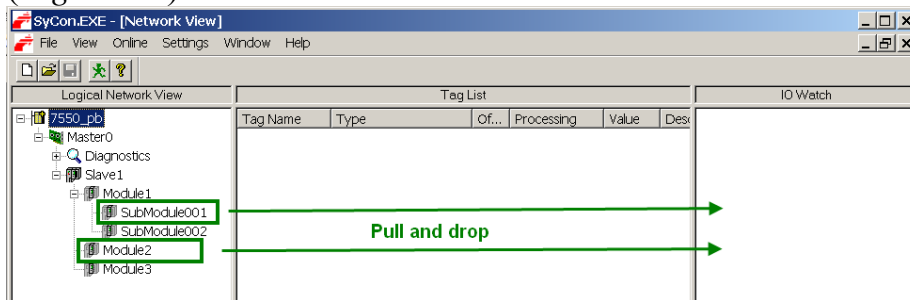

Figure 39: Creating a input watch window
- Pull “SubModule001” and “Module2” to the IOWatch window (Figure 39)